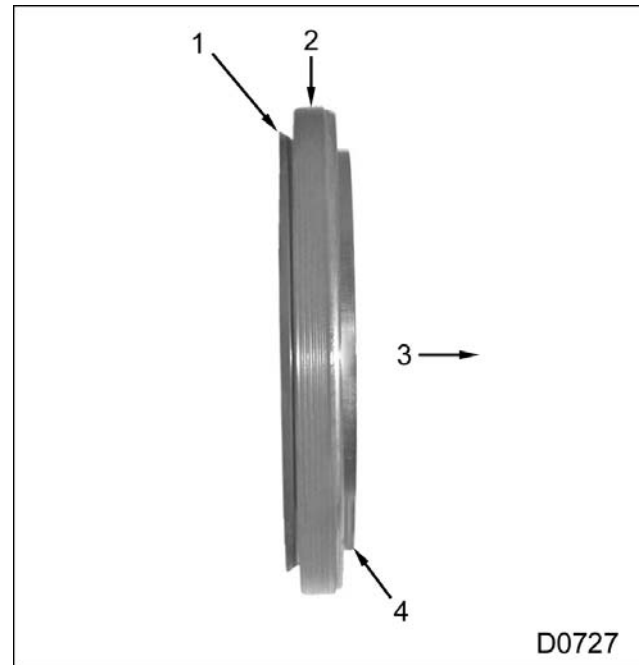

Figure 621 Rear main oil seal and wear sleeve orientation
3. Orient seal as shown in (Figure 621) and slide on rear/wear sleeve installer. Make sure the beveled edge of the wear sleeve is oriented toward the crankshaft.